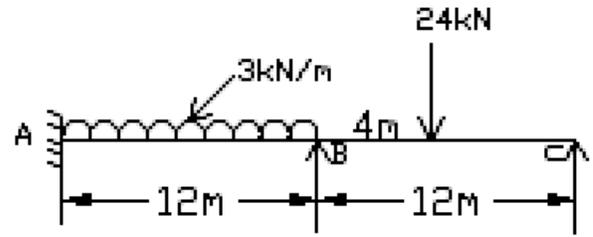

Fig.3
13. Analyze the beam shown in Fig.3 using Matrix Flexibility method. Draw BMD. 16 CO3 [K4]